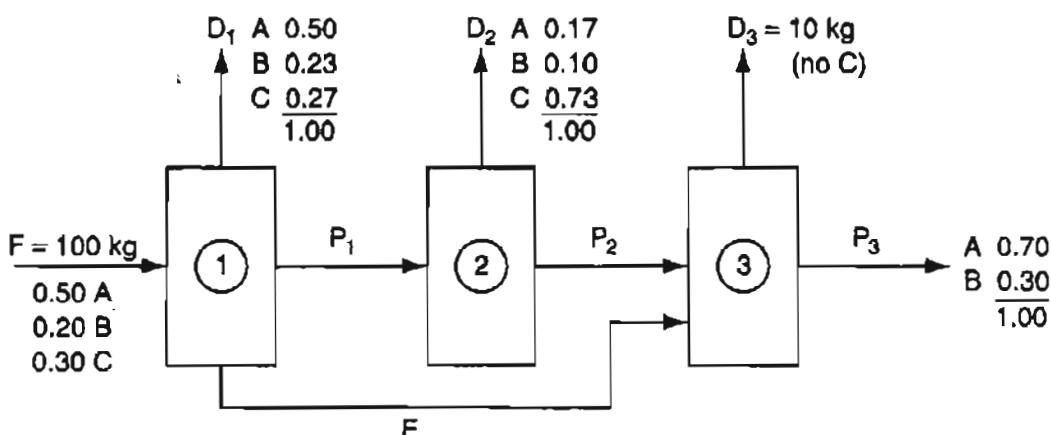

Figure P11.12
- **11.12** Figure P11.12 shows a three-stage separation process. The ratio of P_3/D_3 is 3, the ratio of P_2/D_2 is 1, and the ratio of A to B in stream P_2 is 4 to 1. Calculate the composition and percent of each component in stream E.